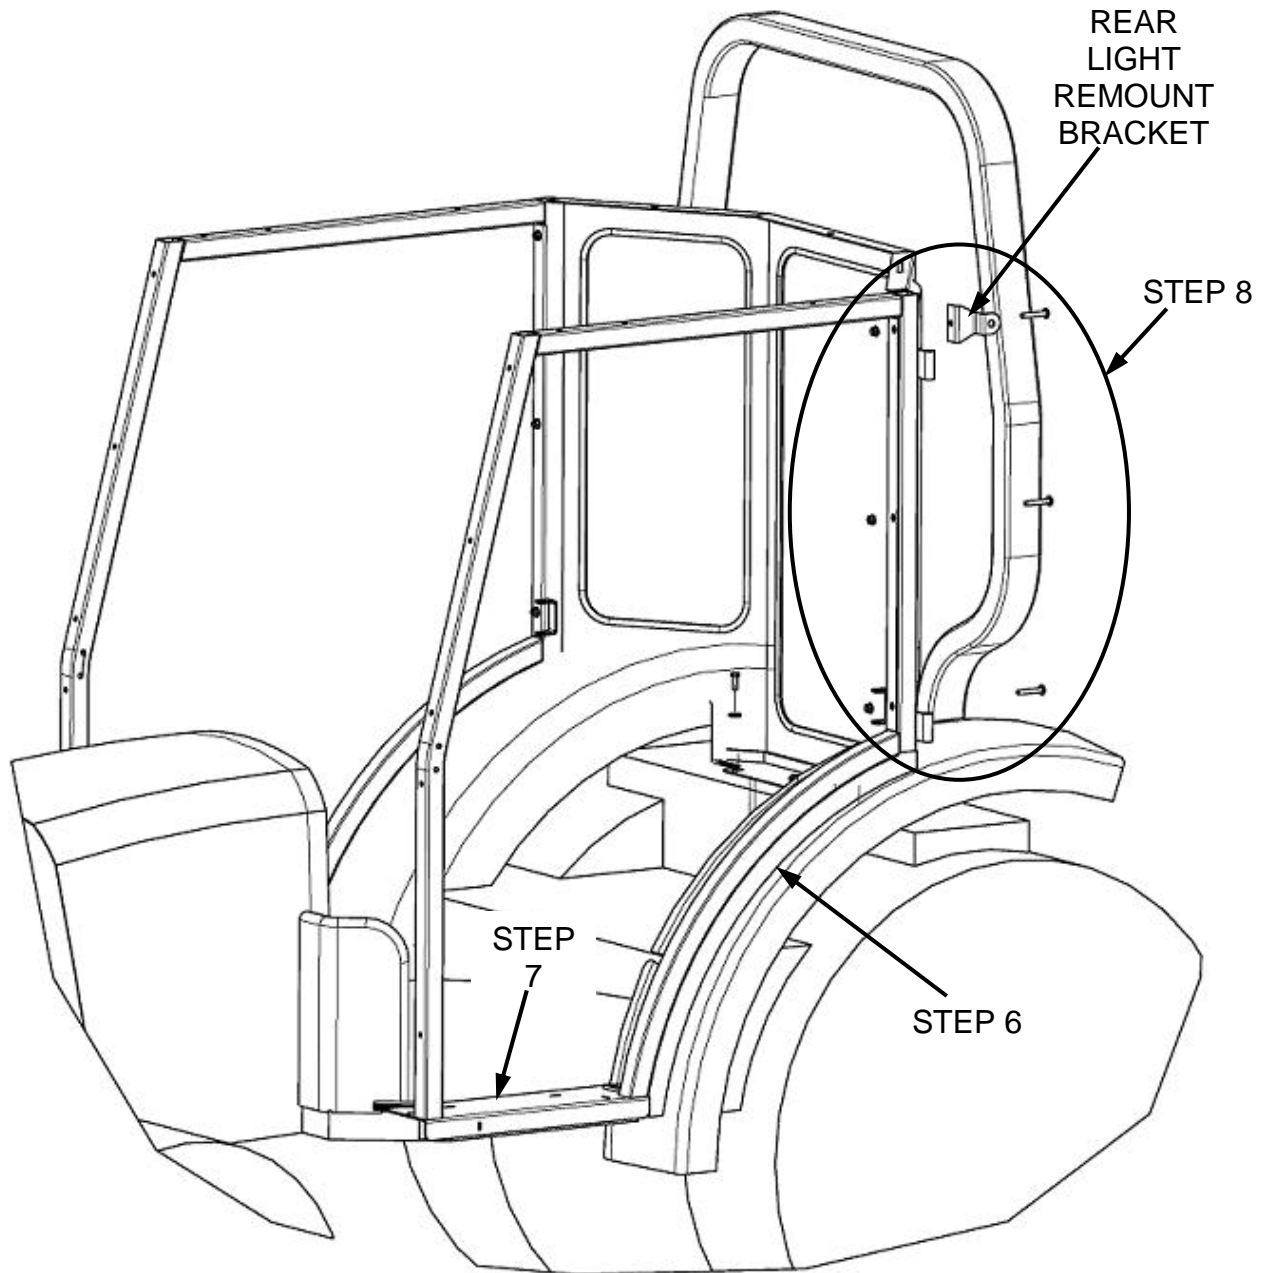

Figure 2
6. Apply 1-1/2" square x 45" long foam seal to the underside radius of each side frame. Trim excess material. See figure 2.
7. Position the plate portion of LH side frame onto tractor platform deck. See figure 2.
8. Secure rear of LH side frame, (1) rear light remount bracket and rear panel assembly, using (3) 5/16" x 2.00" long button head bolts and (3) 5/16" flange nuts. Repeat step to mount RH side frame. See figure 2.